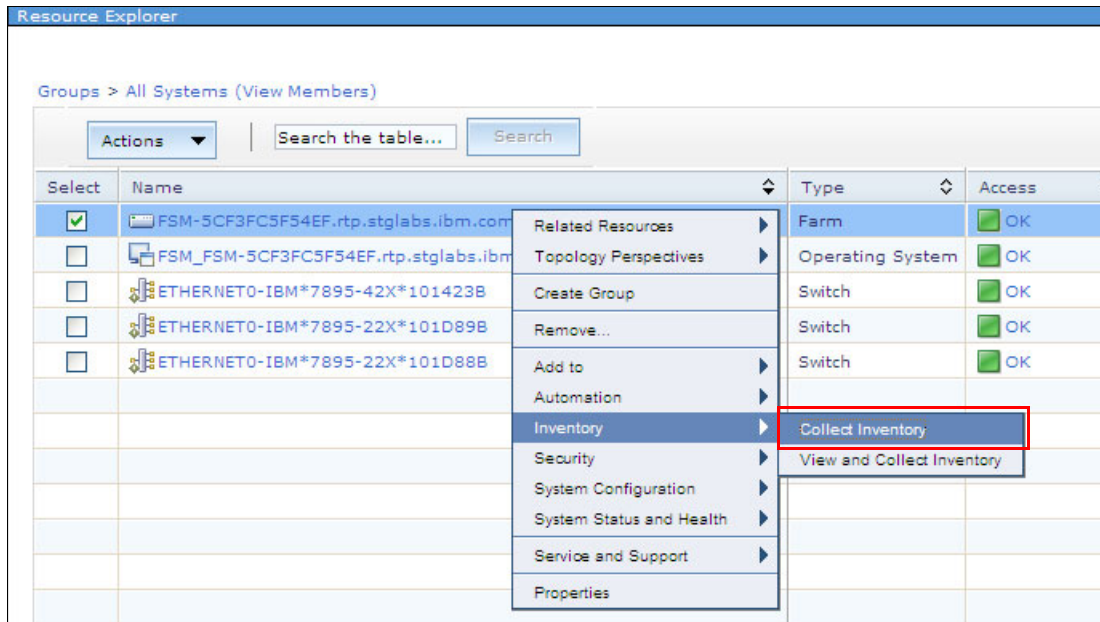

Figure 6-168 Run Collect Inventory
13. Collect inventory on a farm as shown in Figure 6-168.